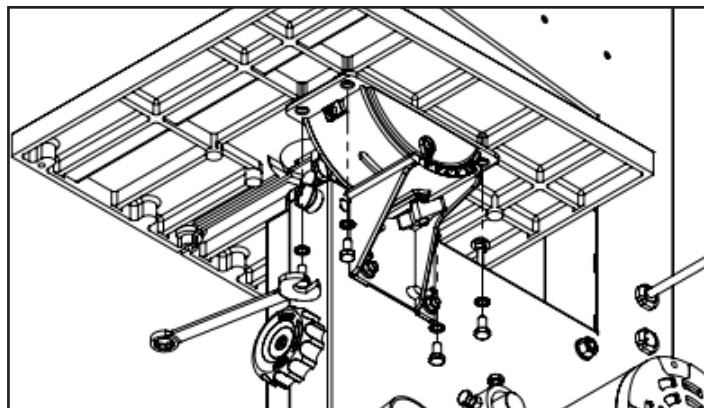

FIGURE 3
2. Attach the table to the trunnion with the four Washers and Hex Bolts (#154, 155). Install two bolts to the right of the blade, hand tightened only. Next loosen the trunnion with the Wing Nut (#156), tip the table to 45 degrees and install the two bolts to the left of the blade. DO NOT fully tighten the bolts at this time. Return the table to the horizontal position. FIG. 3.